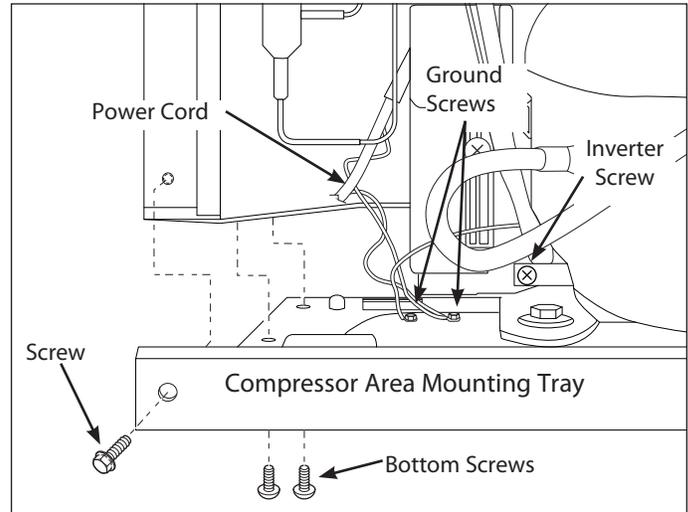

Figure 6-101.
3. Extract the four bottom screws securing the mounting tray to the rear of the unit. (See Figure 6-101)